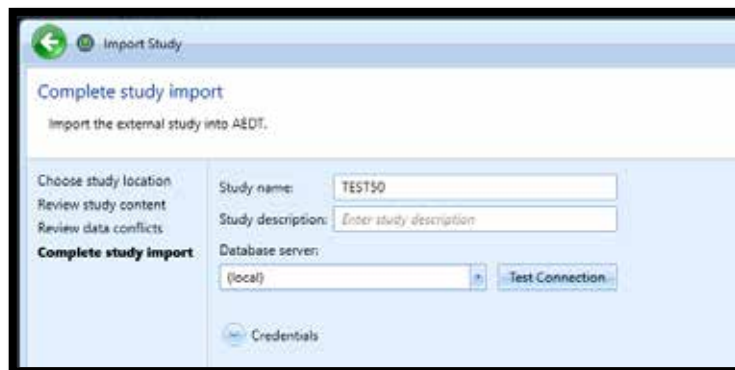

Figure 64. Complete study import
6. In the *Complete study import* step, enter a unique *study name* (Figure 64).